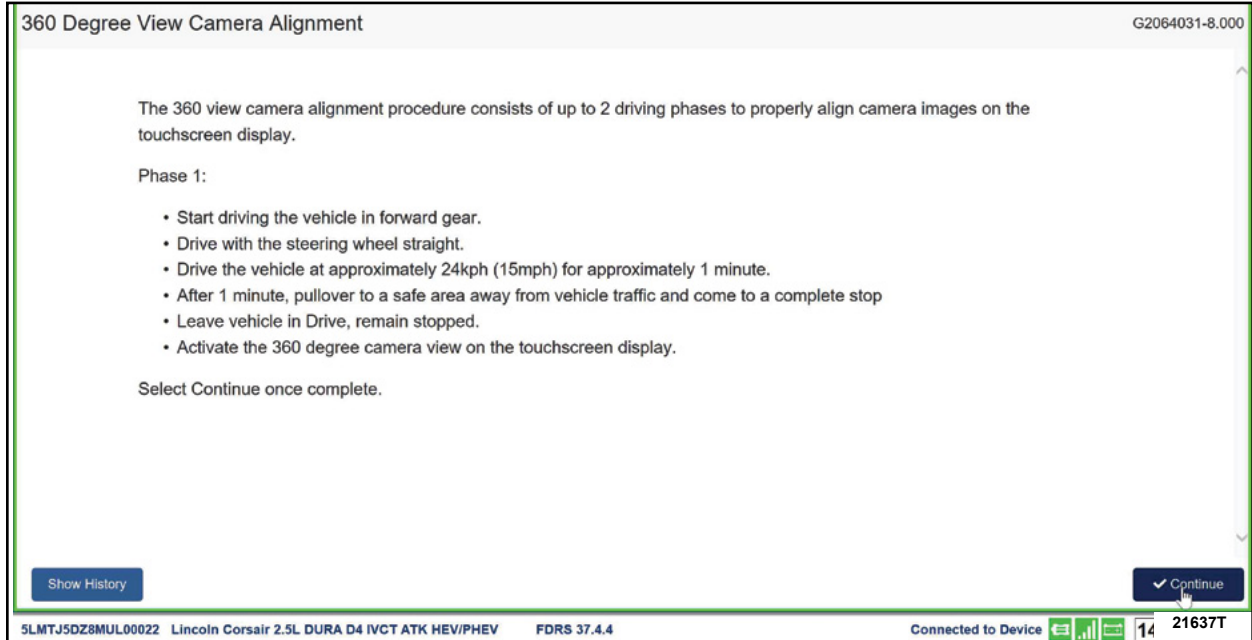

FIGURE 21
c. Phase 1 is preparing the camera for calibration and can be performed in a parking lot. See Figure 21.